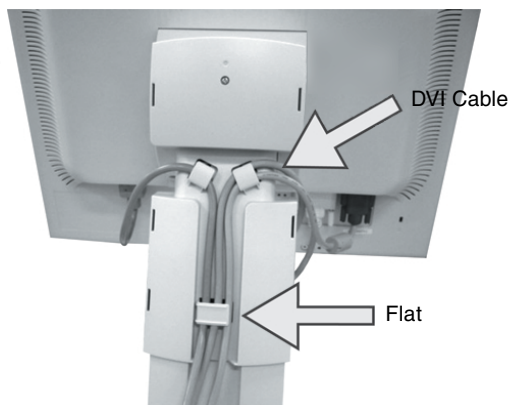

Figure C.3
7. Place the DVI cable into the specific hooks indicated in **Figure C.3**.
8. Make sure all cables are resting flat against the stand (**Figure C.3**).